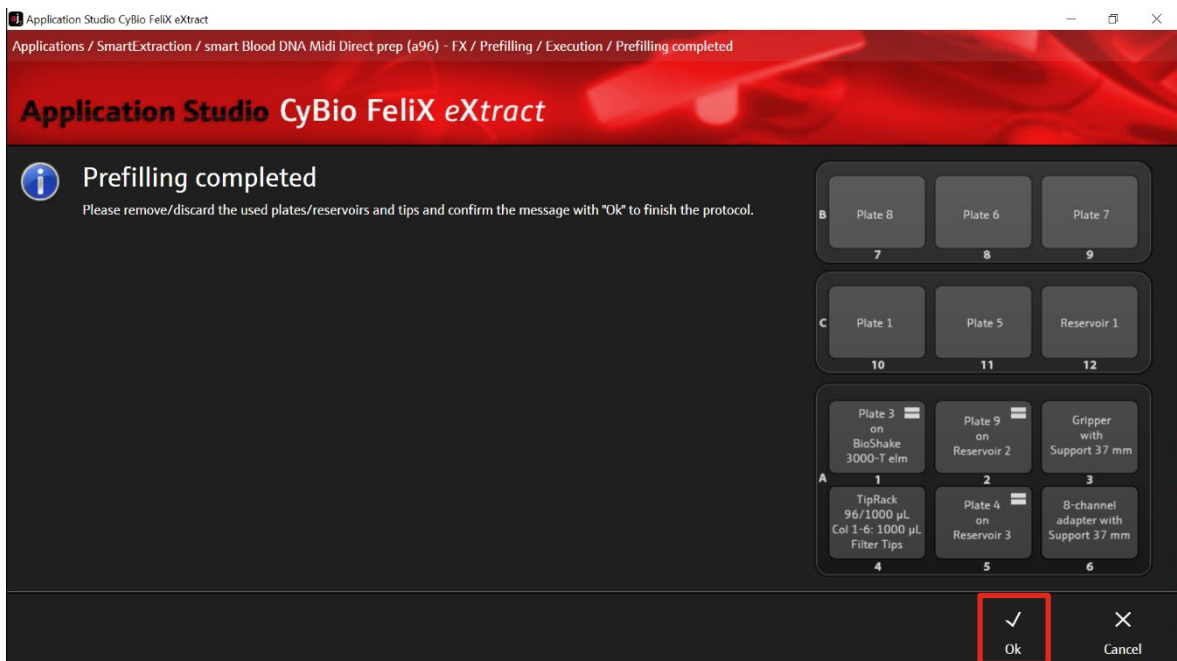

Figure 10: Completion of the prefilling routine.
22. The chosen protocol is performed by the device. After the protocol is finished, the message "Prefilling completed" is shown. Confirm the message with "Ok" (→ see Figure 10).